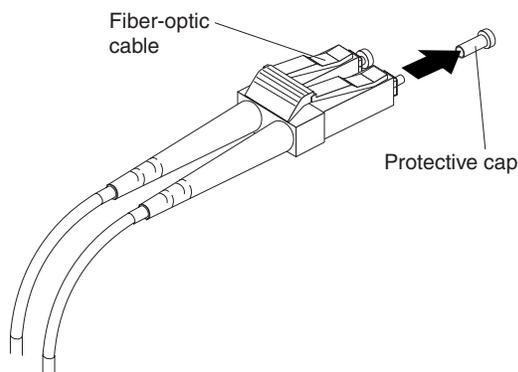

Figure 25. Removing fiber optic cable protective caps
3. Remove the two protective caps from one end of the LC-LC cable, as shown in Figure 25. Save the protective caps for future use.